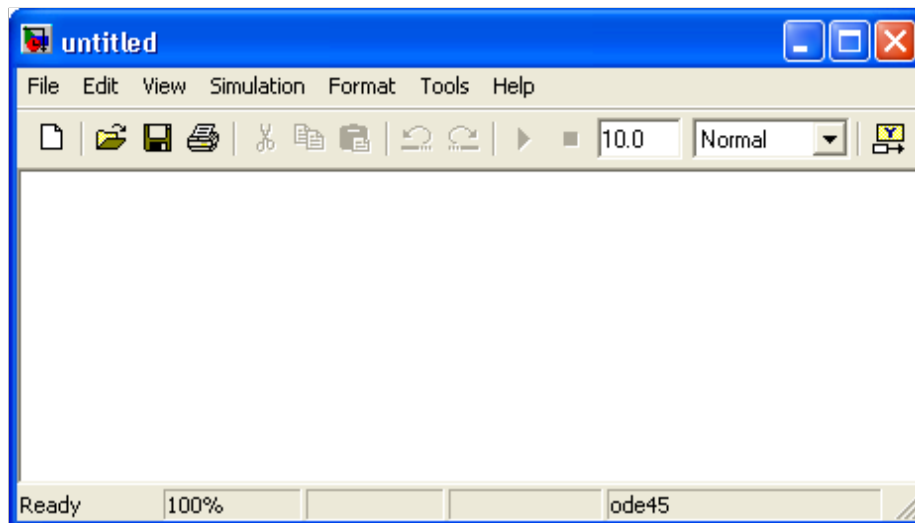

Figure 7: Untitled Design Window
2. The untitled design window is shown in Figure 7. This window will now be used to construct the AM Modulator model.